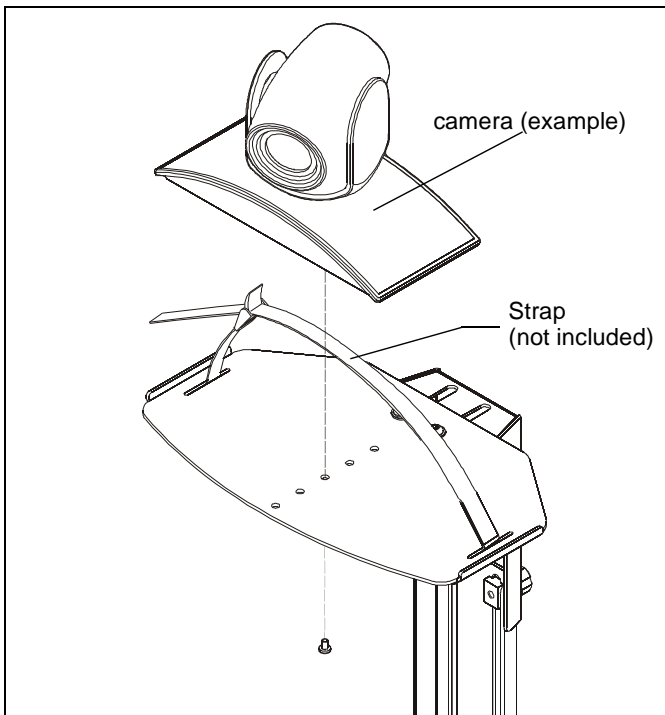

Figure 4
1. Install 1/4-20 x 3/8" Phillips pan machine screw (F) through one of the mounting holes on shelf and into the hole on the bottom of the camera. (See Figure 4)